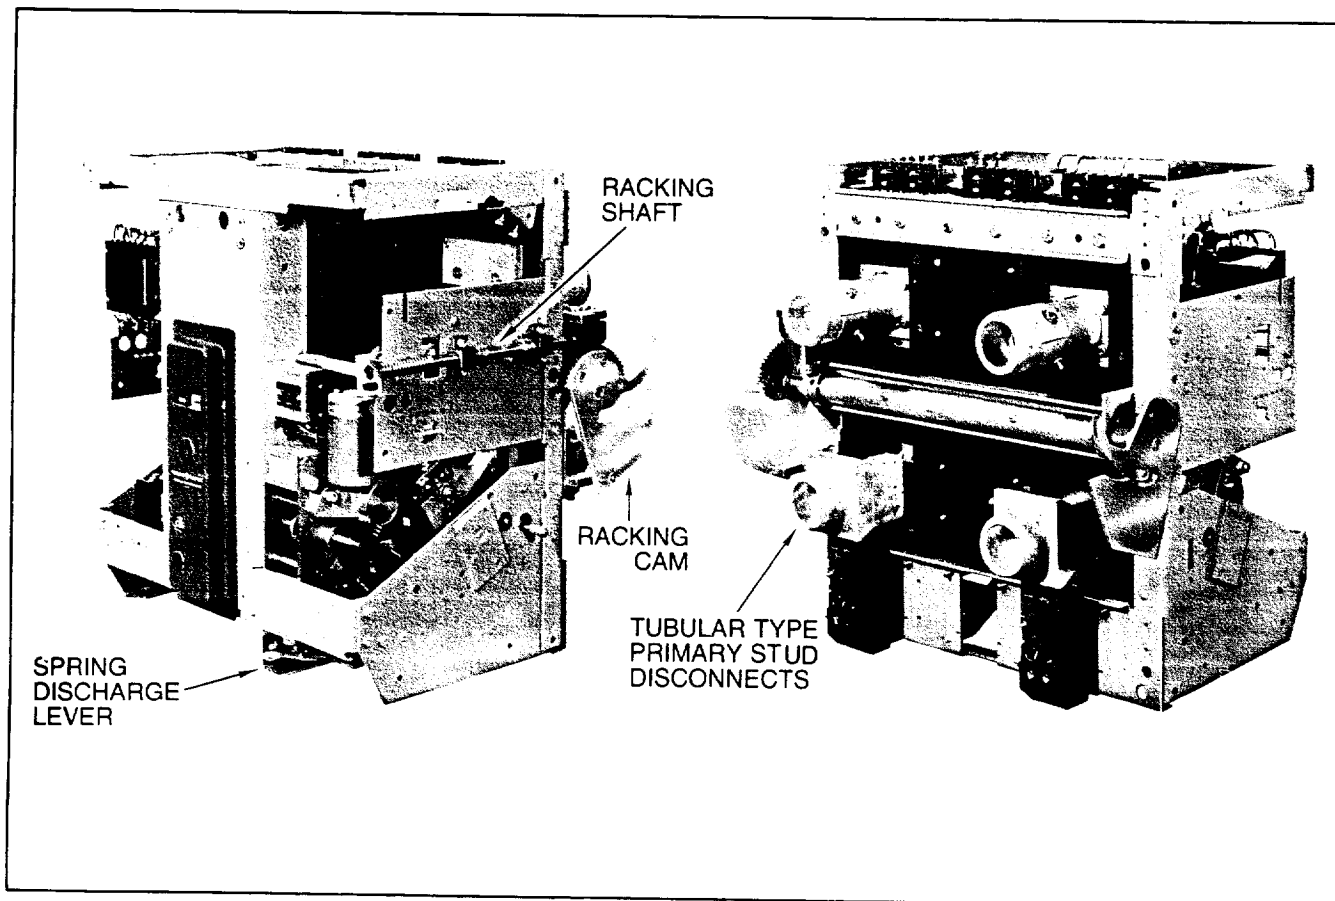

Fig. 1 AKR-2-75 electrically operated, 2-pole Dc (AKD type)
5.2 NO CODE LETTER (AKD SWITCHGEAR) (Fig. 1)
If the breaker is electrically operated, push it into the compartment until the spring discharge stop is encountered. Release this by depressing the "spring discharge" lever on the bottom of the breaker (see fig. 1), then continue pushing the breaker into the compartment until the TEST position stop engages.